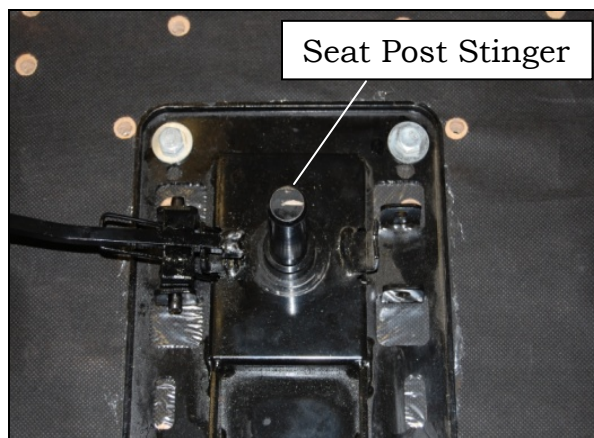

Figure 2
1. To install the seat, align the seat post stinger on the bottom of the seat with the hole in the seat post on the chair. See figures 2 and 3 on page 13.